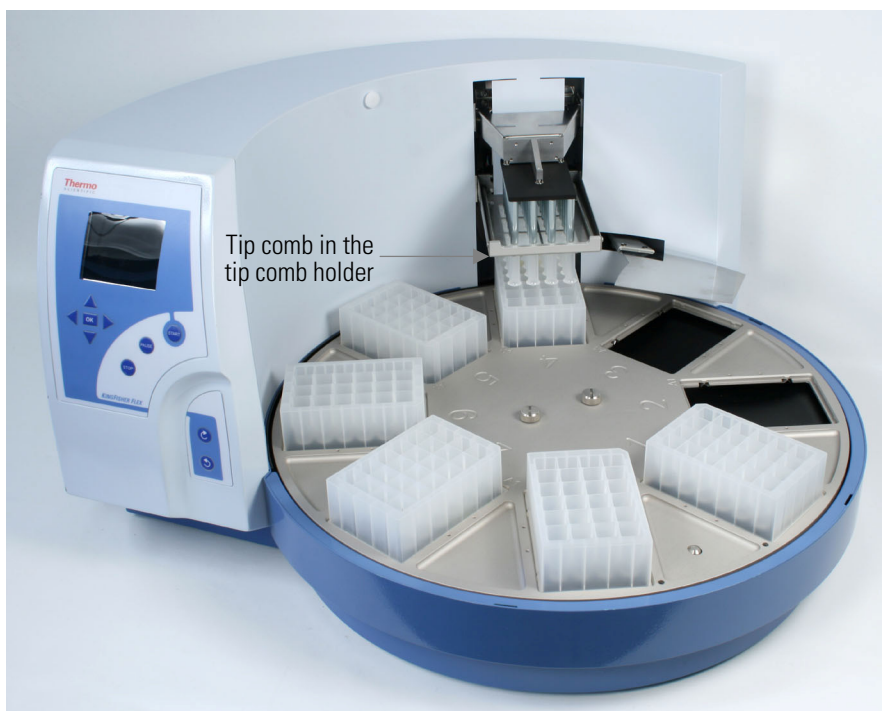

Figure 4-43. Tip comb in the tip comb holder
4. The tip comb is automatically locked onto the tip comb holder from the tip-plate (Figure 4-43).